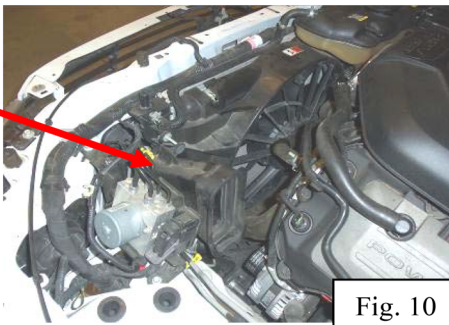

Fig. 10
10. Remove the air filter intake duct from the driver side of the radiator (Fig. 10).